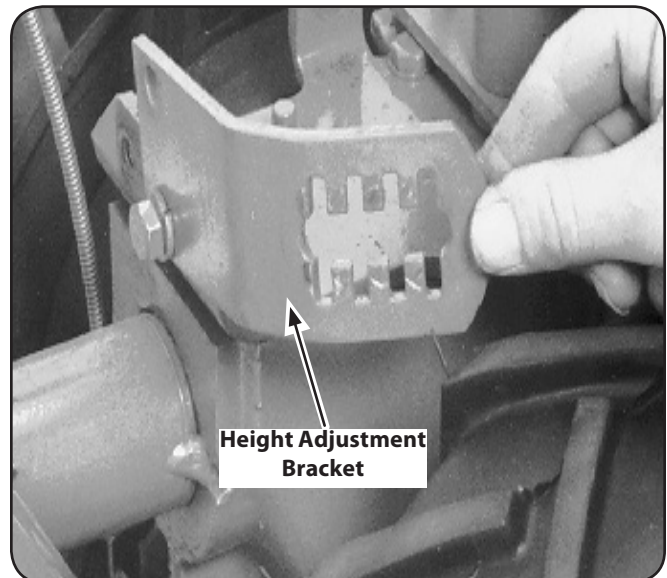

Figure 3-1
1. On electric start machines, remove one screw and lock washer from the curved height adjustment bracket. Loosen the second screw and swing the bracket to one side. See Figure 3-1.